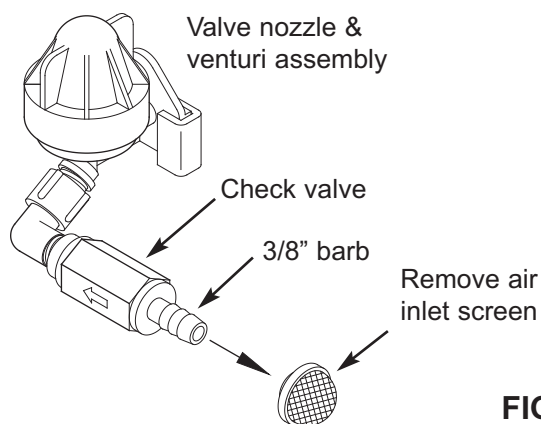

FIG. 11
2. Remove air inlet screen from check valve on the valve's nozzle & venturi assembly (See Figure 11).